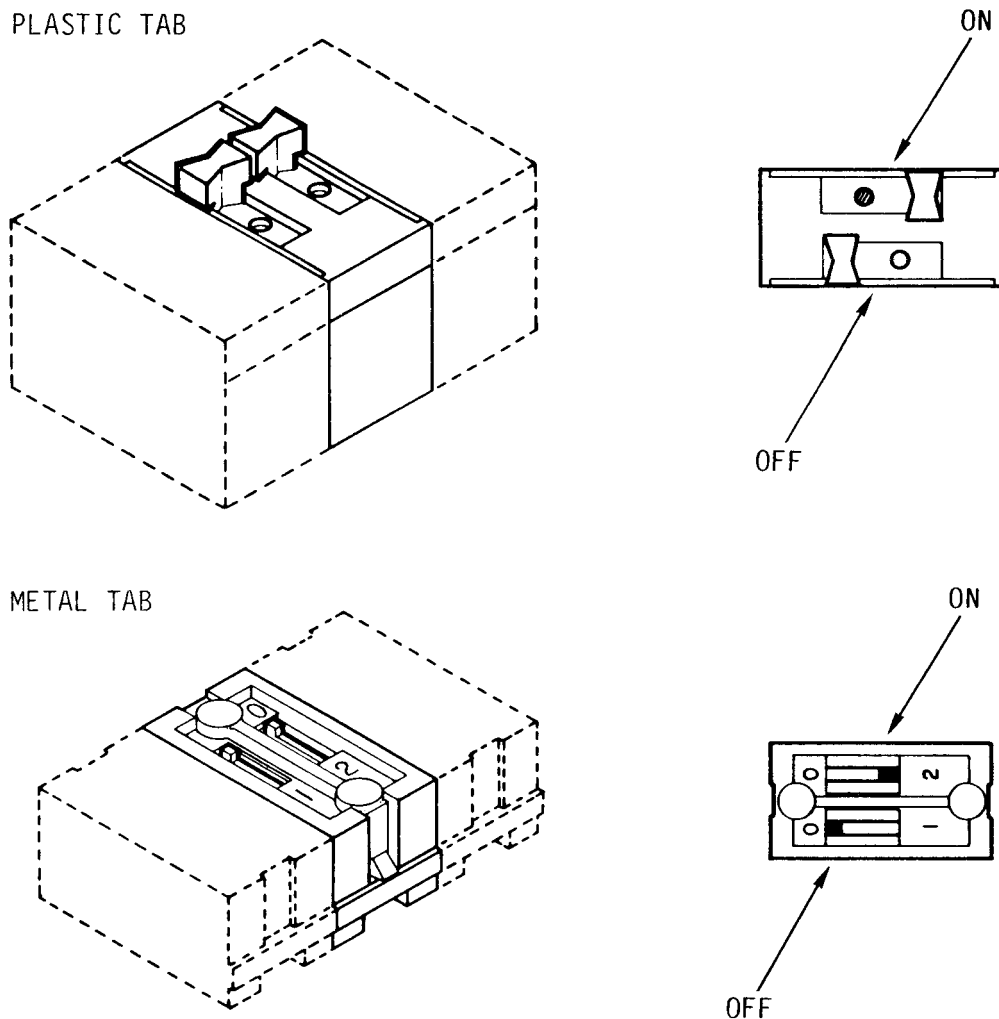

Figure 1-9. Slide Switch Operation
b. Slide Switches. These assemblies (fig. 1-9) are made up of metal or plastic tabbed slides set individually or ganged together in a non-conductive housing.
(1) Typically, the plastic tab switch indicates ON when a dot is visible and OFF when the dot is not visible.
(2) A typical metal tab switch is ON when the tab is at the numbered side of the assembly, and OFF when the tab is at the zero (0) side.